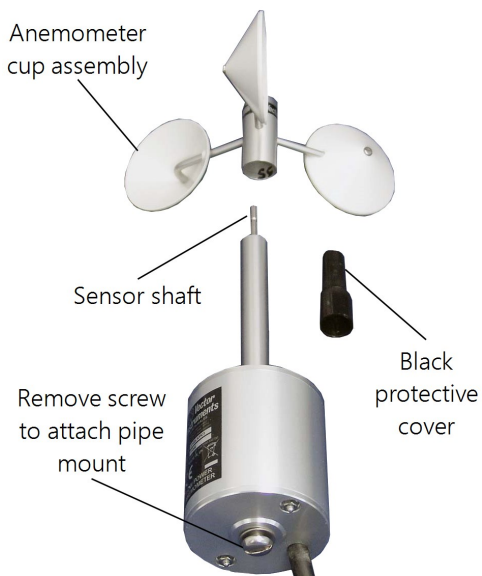
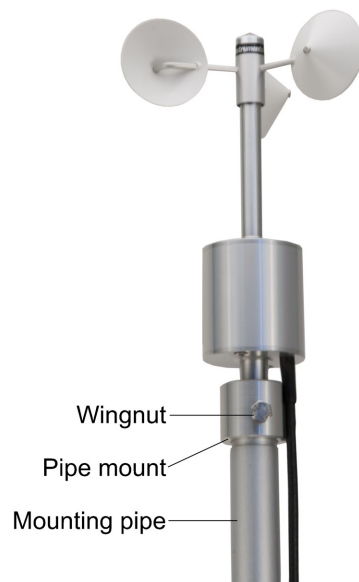

Figure 7-2. Anemometer cup assembly, sensor body, and shaft cover
Figure 7-3. Assembled A100LK
2. Hold sensor in a vertical position and press anemometer cup assembly onto shaft (see Figure 7-2 [p. 8] and Figure 7-3 [p. 9]).
3. Remove screw in bottom of the sensor body and screw in pipe mount (see Figure 7-2 [p. 8] and Figure 7-3 [p. 9]).